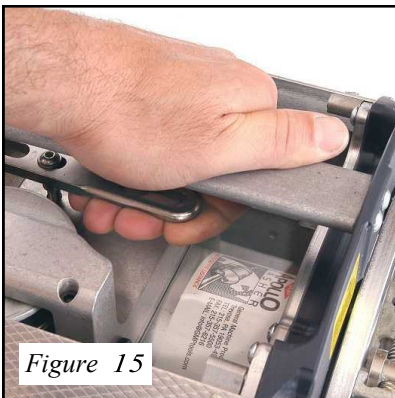

Figure 15
13. If more wire is needed, disengage the drive wheel to pull out more lashing wire. (See Figure 15)